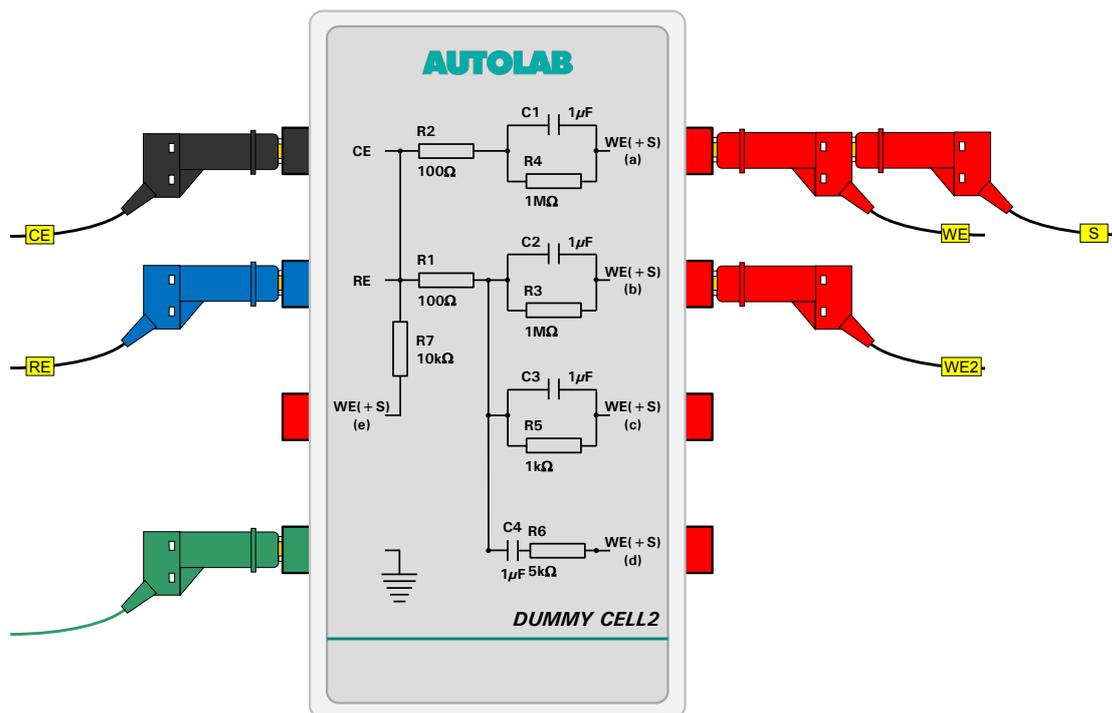

Figure 13 – The connections used for the BA module (BIPOT mode) procedure
Connect the cables from the PGSTAT to the Autolab dummy cell as shown in Figure 13 and press the start button to begin the measurement.
Connect WE(1) to the dummy cell (a) and WE(2) to the dummy cell (b), as shown in Figure 13 and press the start button to begin the measurement.